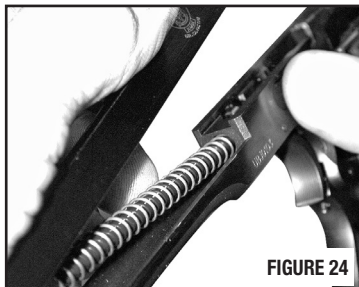

FIGURE 24
- Replace the slide and recoil spring assembly onto the frame. Make sure that the recoil spring is aligned properly into the corresponding space in the frame (FIGURE 24).